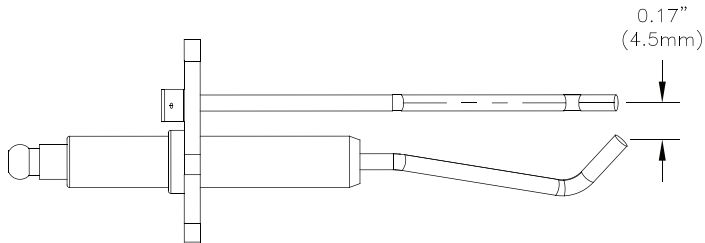

Figure 46: Igniter Electrode Gap
- 3. Remove the igniter assembly and flame sensor** and inspect them for oxide deposits. Clean the oxide deposits from the igniter electrodes and flame sensor rod with steel wool. Do not use sandpaper for the cleaning. Inspect the ceramic insulators for cracks and replace the igniter assembly and/or flame sensor if necessary. Check the igniter electrode spacing gap. Refer to Figure 46 "Igniter Electrode Gap" for details.